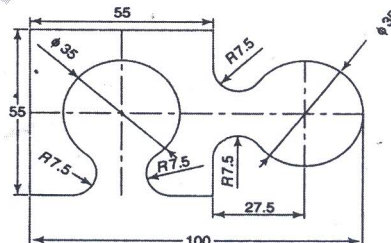

Fig.Q7(b)
b. Write the manual part programming for the milling components shown in Fig.Q7(b) consider spindle speed as 800 rpm and feed rate as 100 mm/min and absolute positioning. Assume plate thickness as 10 mm and all dimensions are in mm.